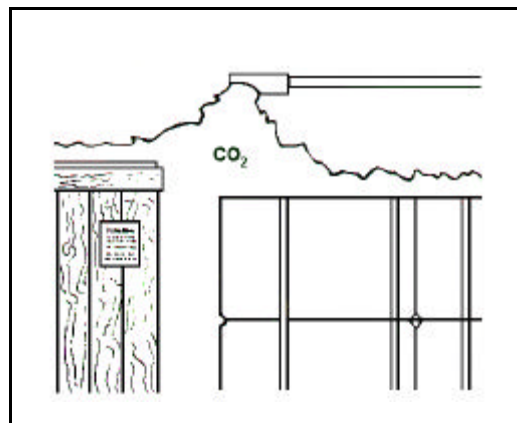

Figure 11-5. Effects of Oxygen Dilution
- **Oxygen dilution.** Reduces the amount of available oxygen below that needed to sustain combustion. This is an attack on the oxygen side of the triangle (see Figure 11-5).